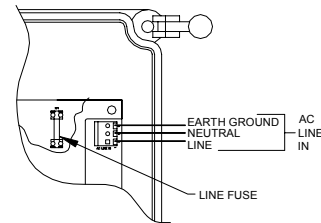

Figure 3
2. Electrical connections are provided on the left side of the enclosure. There are two fittings: 1) AC Power bulkhead fitting for power cable, and 2) 770MAX patch cable connection. Feed the power cable through the bulkhead fitting on the side-wall. AC power connections are positioned on the right side of the printed circuit board, located on the backside of the sensor front cover. See Figure 3 for terminal wiring. Ensure line fuse is properly installed. See product label for specified fuse size.